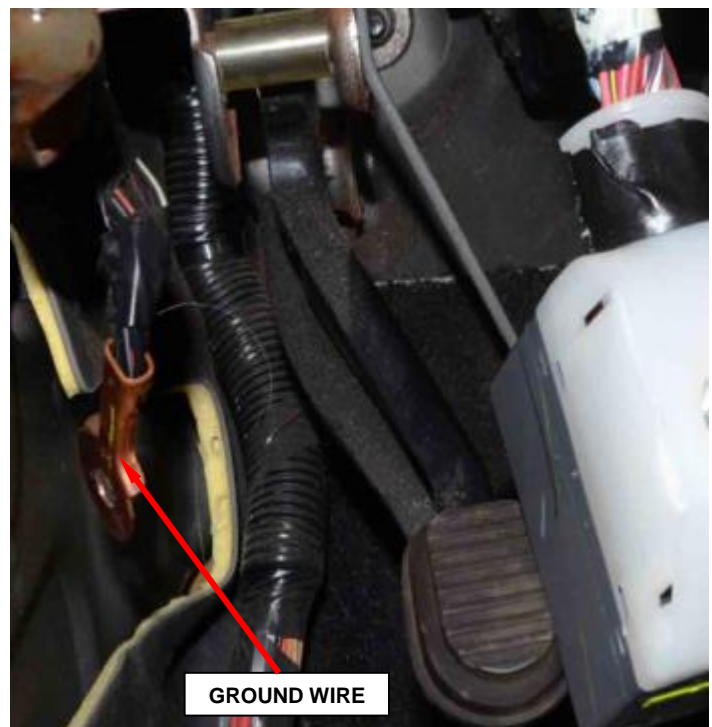

Figure 85 – Bolt and Ground Location
20. Remove the bolt and the ground from the left A-pillar (Figure 85).